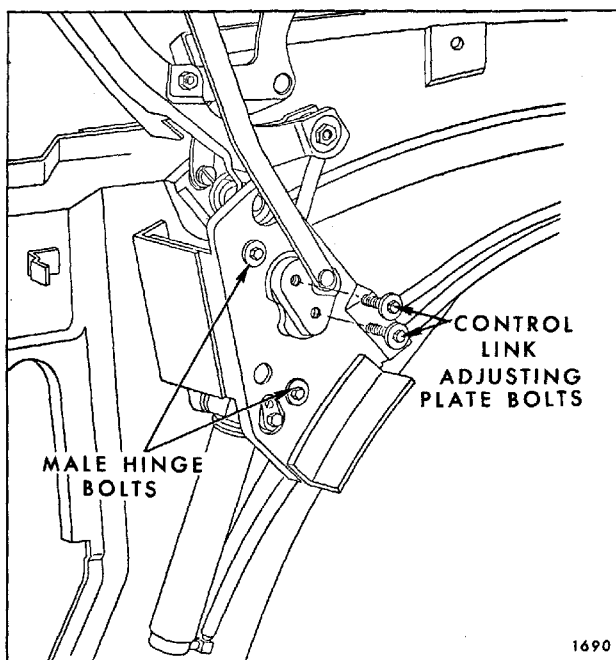

Fig. 6-84—Male Hinge Attachment
- c. Loosen two bolts securing control link adjusting plate sufficiently to permit adjustment of plate (Fig. 6-84).
- b. Loosen male hinge assembly and control link attaching bolts (Fig. 6-84).
- b. Loosen male hinge assembly attaching bolts (Fig. 6-84).
2. Male hinge assembly misaligned.	Adjust male hinge assembly rearward (Fig. 6-84).